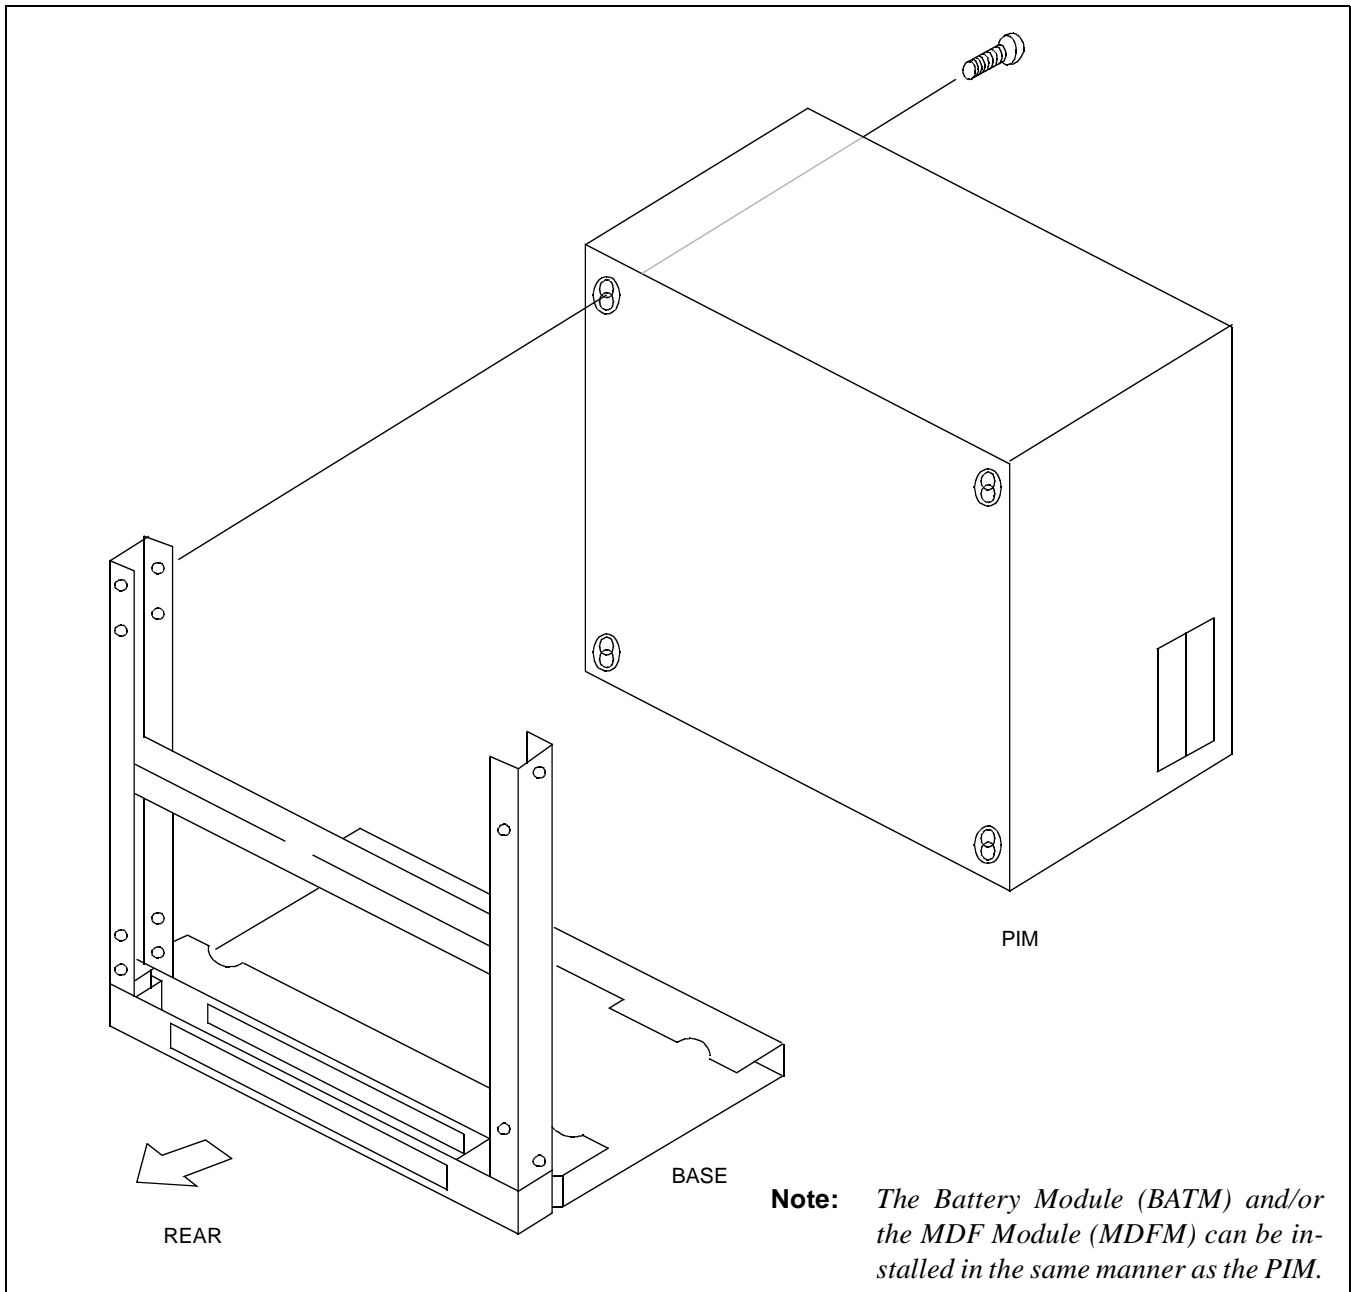

Figure 003-5 Connection of the PIM and the RACK PARTS
- (4) Secure the PIM to the RACK PARTS as shown in Figure 003-5 by tightening the 4 screws already mounted in the RACK PARTS. When the system is a multiple-PIM configuration, secure all PIMs and RACK PARTS.